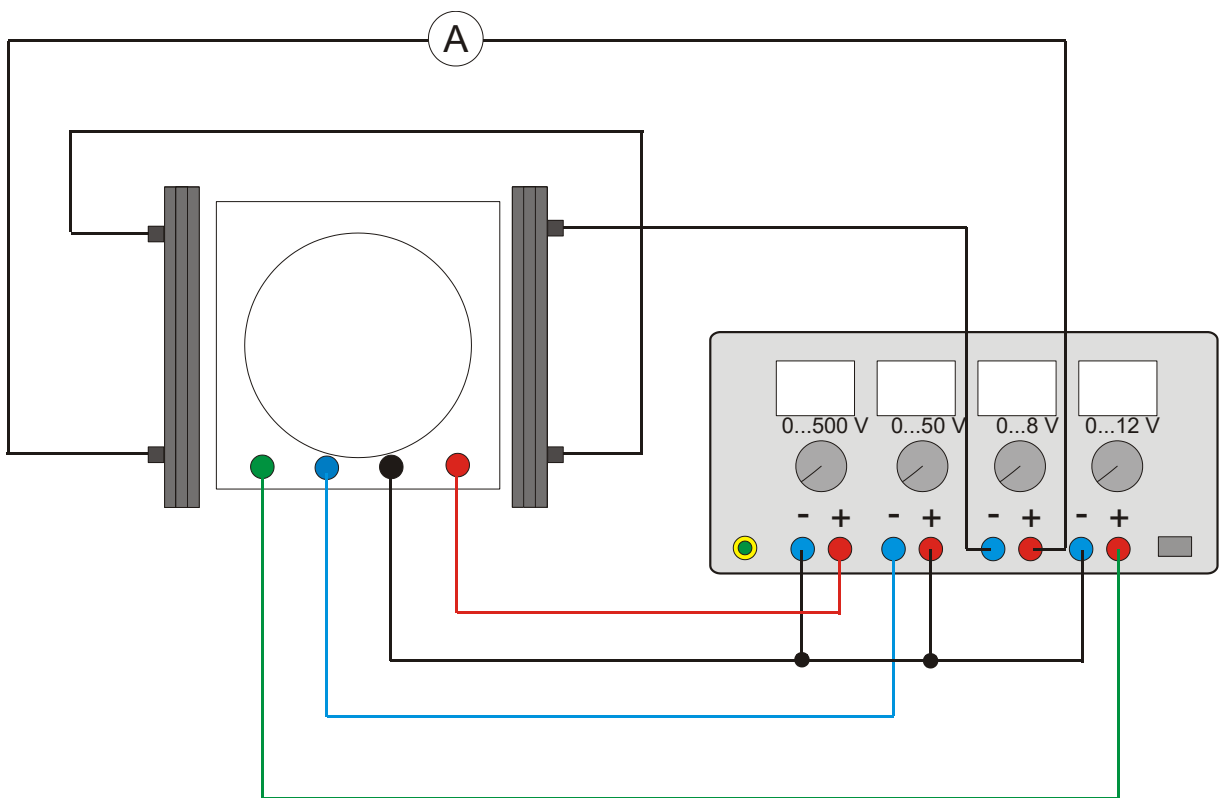

Fig. 4 Electrical connections from the fine beam tube to the DC power supply 500 V
- Set up the tube as in fig. 4.